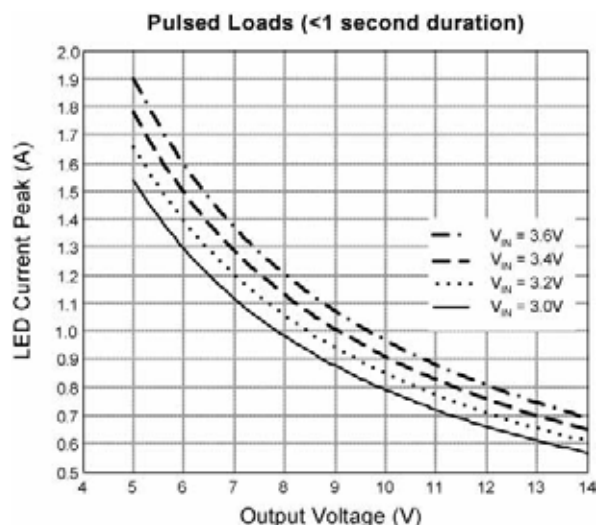

Figure 8. Peak Output Current vs. V_{OUT}
The SOA (safe operating area) of the MIC2299 is shown in the typical characteristics section. This graph represents the maximum continuous output power capability of the part when used on a minimal evaluation board layout. This is a 2 layer board of 1 ounce copper, utilizing the bottom layer as a ground plane heat sink. The total area of the GND copper is approximately 1.3 square inches. This approaches a thermal resistance of 45°C/W. An alternative layout with more copper area for heat sinking will increase the area under the SOA curve. Note that the SOA is for continuous power and not peak power and is effectively a thermal limitation. The SOA is true for a time constant of approximately >1 seconds. Therefore, any load transient with a period of < 3s can exceed the SOA curve power up to a maximum limited by the current limit of the MIC2299. Figure 8 shows the theoretical output current limit of the MIC2299 using the Evaluation Board inductor value of 2.2μH with a DCR 50mΩ.
- The time constant of the driver is <3 seconds, so we can look at the peak current capability of the driver in Figure 8.
- Looking at Figure 8, the MIC2299 can achieve more than the required 800mA peak current at 8.4V